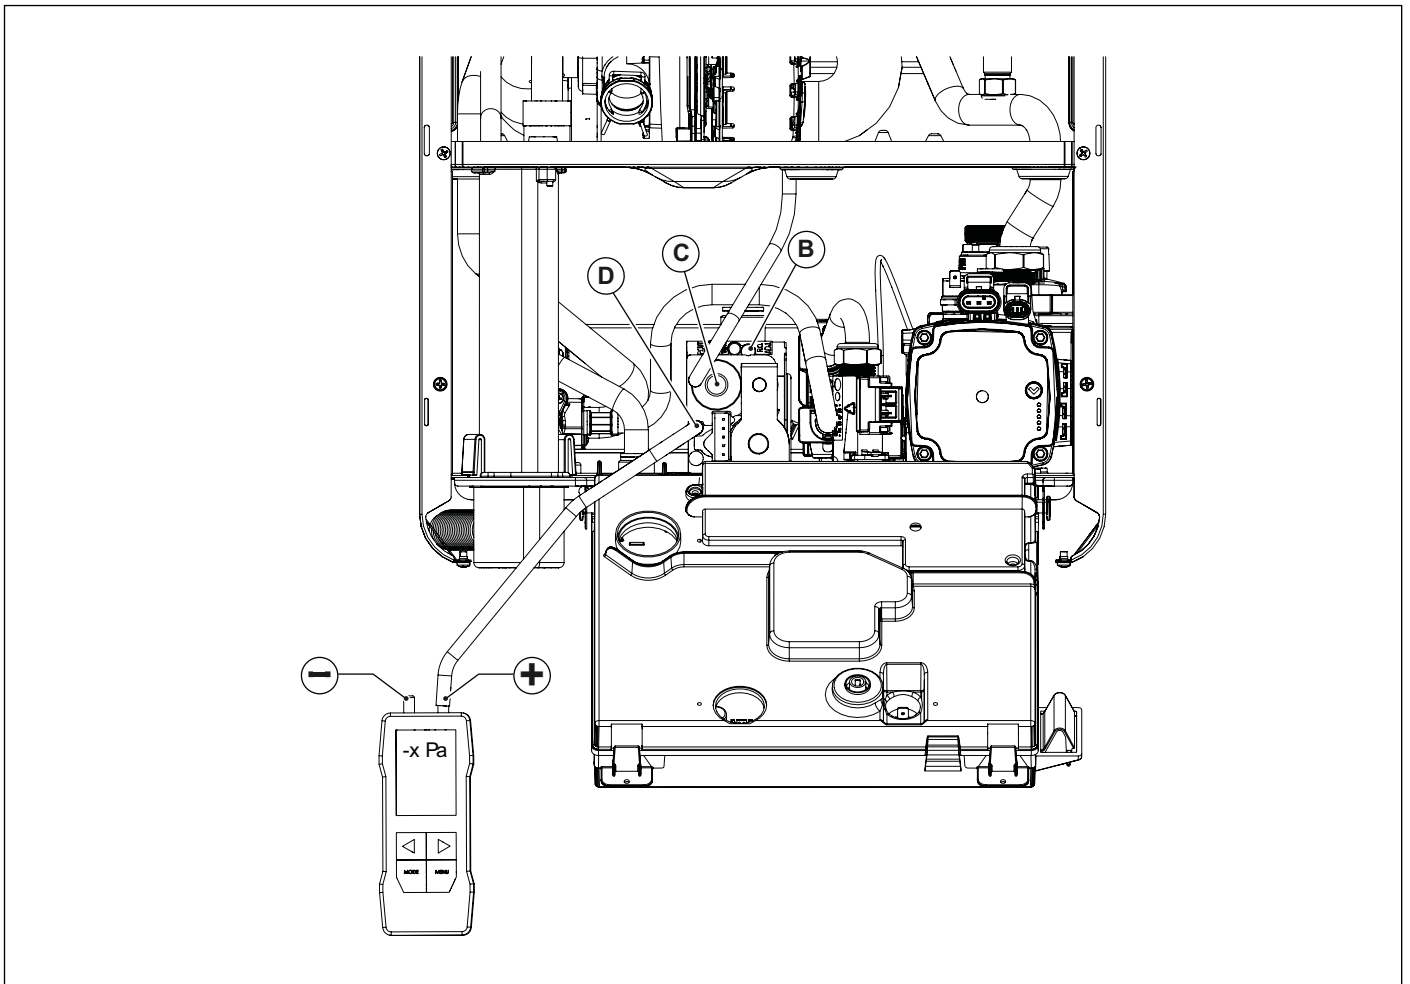

Fig. 36 Offset pressure adjustment
- Open the screw of the offset pressure pick-up point **D** and connect it to the positive input (*) of the differential pressure gauge (see Fig. 36 Offset pressure adjustment).